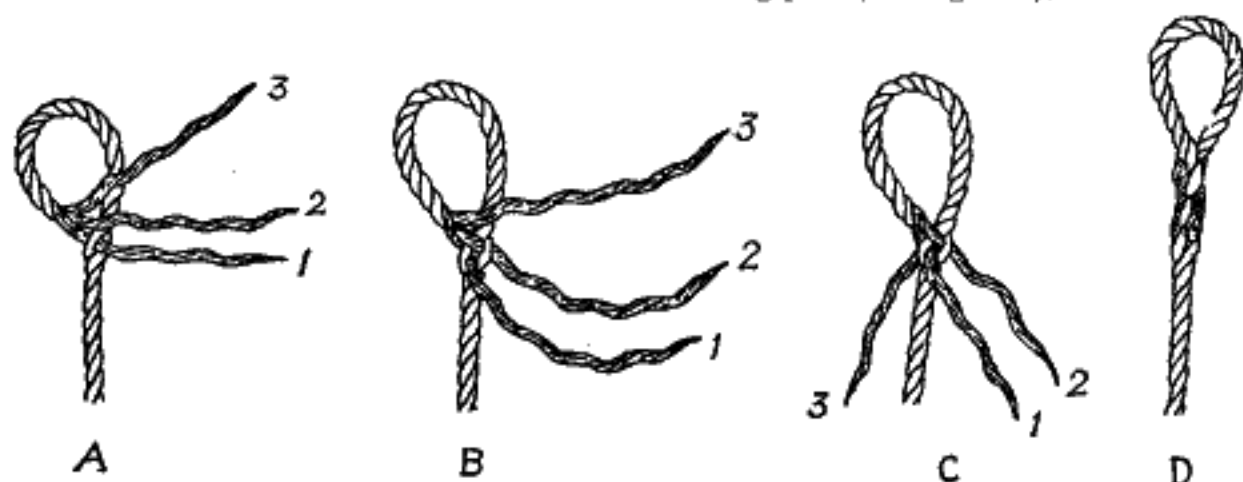

FIG. 350.—The eye splice.
2. Place strand 1 under a strand of the standing part (see Fig. 350).